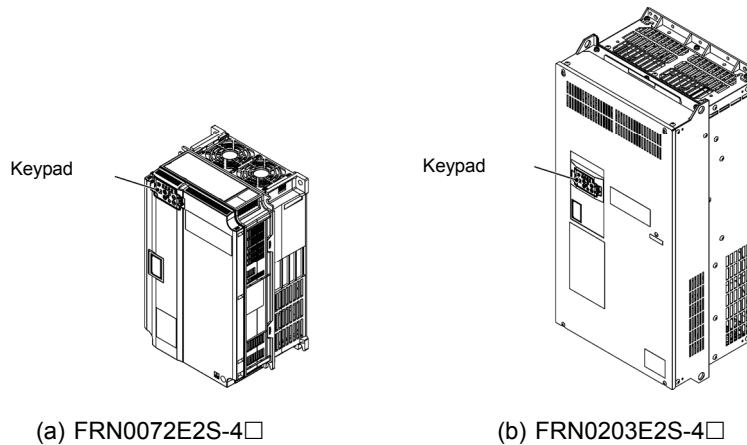

Figure 2.3-1 Attaching the Keypad to the Inverter Main Body
- Attach to the inverter main body (refer to figure 2.3-1(a), (b))